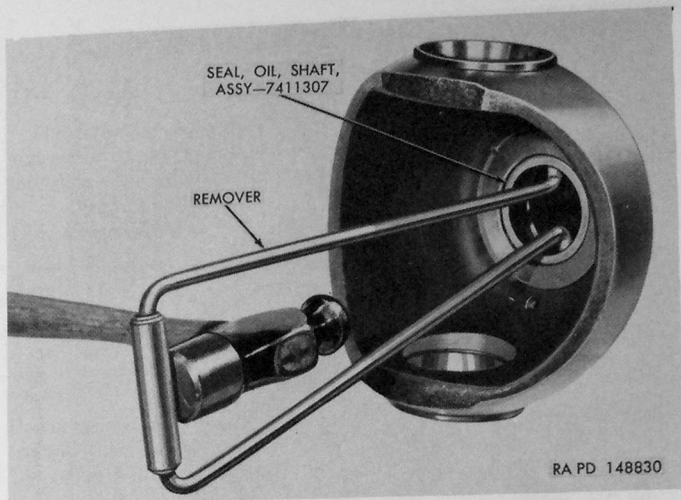

Figure 122. Removing shaft oil seal assembly using remover 41-R-2371-850.
c. Remove Thrust Washer.—Remove thrust washer (V) from housing outer end by driving a sharp chisel between thrust washer and housing at stake marks. Use care not to damage thrust washer seat in housing.
d. Remove Shaft Oil Seal.—Position remover 41-R-2371-850 through shaft oil seal (U); then strike remover several sharp blows with hammer to remove seal (fig. 122).